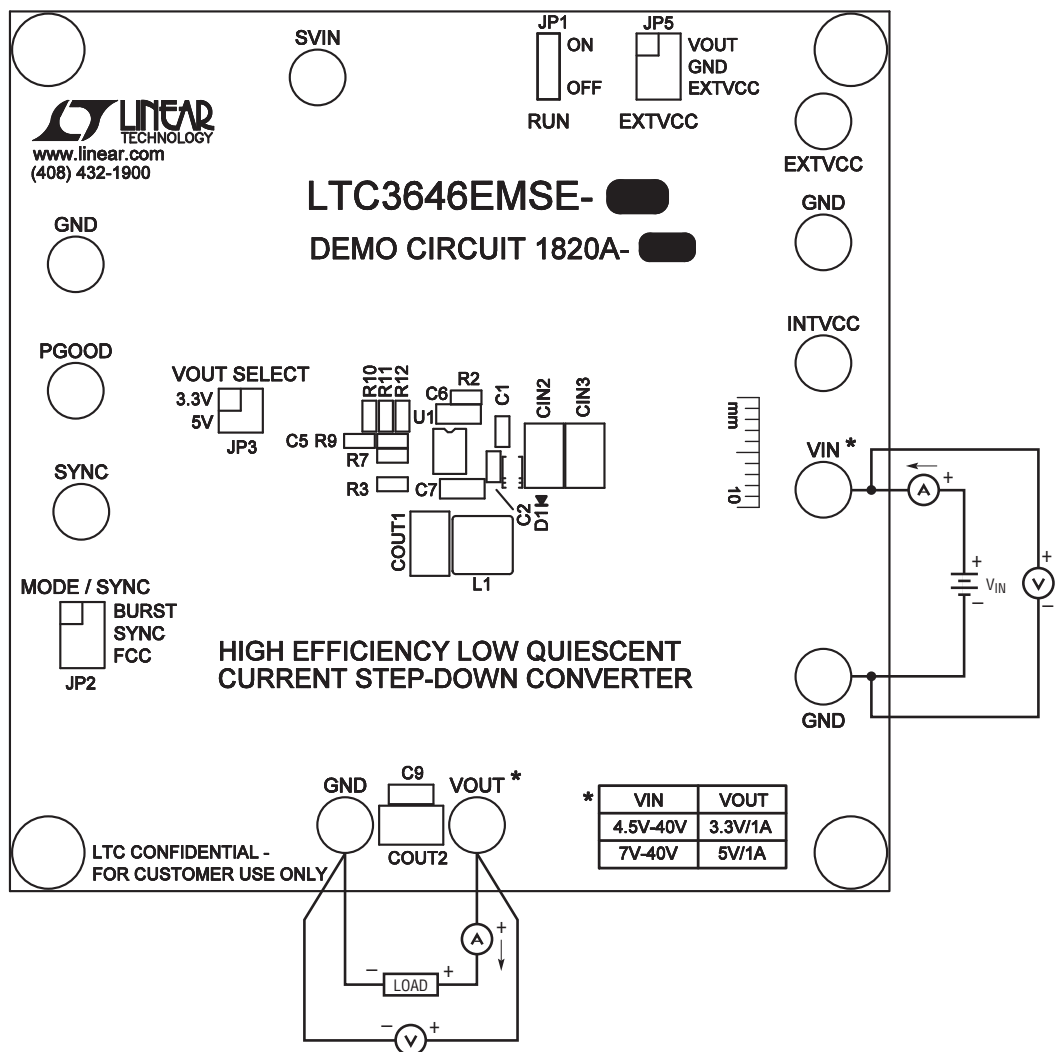

Figure 1. Proper Measurement Equipment Setup
Demonstration circuit 1820A is an easy way to evaluate the performance of the LTC3646/LTC3646-1. Please refer to Figure 1 for proper measurement equipment setup and follow the procedure below:
2. With power off, connect the input power supply, load and meters as shown in Figure 1. Preset the load to 0A and V_{IN} supply to be 0V.